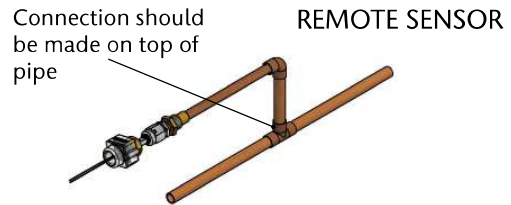

Figure 20: Remote Pipeline Installation
2. Braze copper adapter tube(s) to appropriate pressure/vacuum piping system connections (Figure 20).